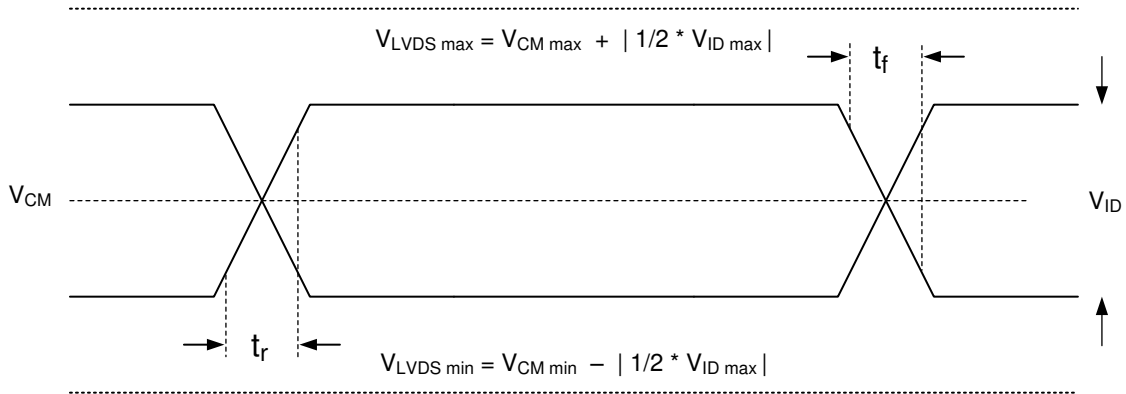

图 6-5. LVDS Waveform Requirements
- (10) See Figure 6-5 LVDS Waveform Requirements.
- (11) Simultaneous exposure of the DMD to the maximum Recommended Operating Conditions for temperature and UV illumination reduces device lifetime.
(2) See Figure 6-5 for Timing Requirements for LVDS.
(3) Channel C (Bus C) includes the following LVDS pairs: DCLK_CN and DCLK_CP, SCTRL_CN and SCTRL_CP, D_CN(15:0) and D_CP(15:0).
(4) Channel D (Bus D) includes the following LVDS pairs: DCLK_DN and DCLK_DP, SCTRL_DN and SCTRL_DP, D_DN(15:0) and D_DP(15:0).